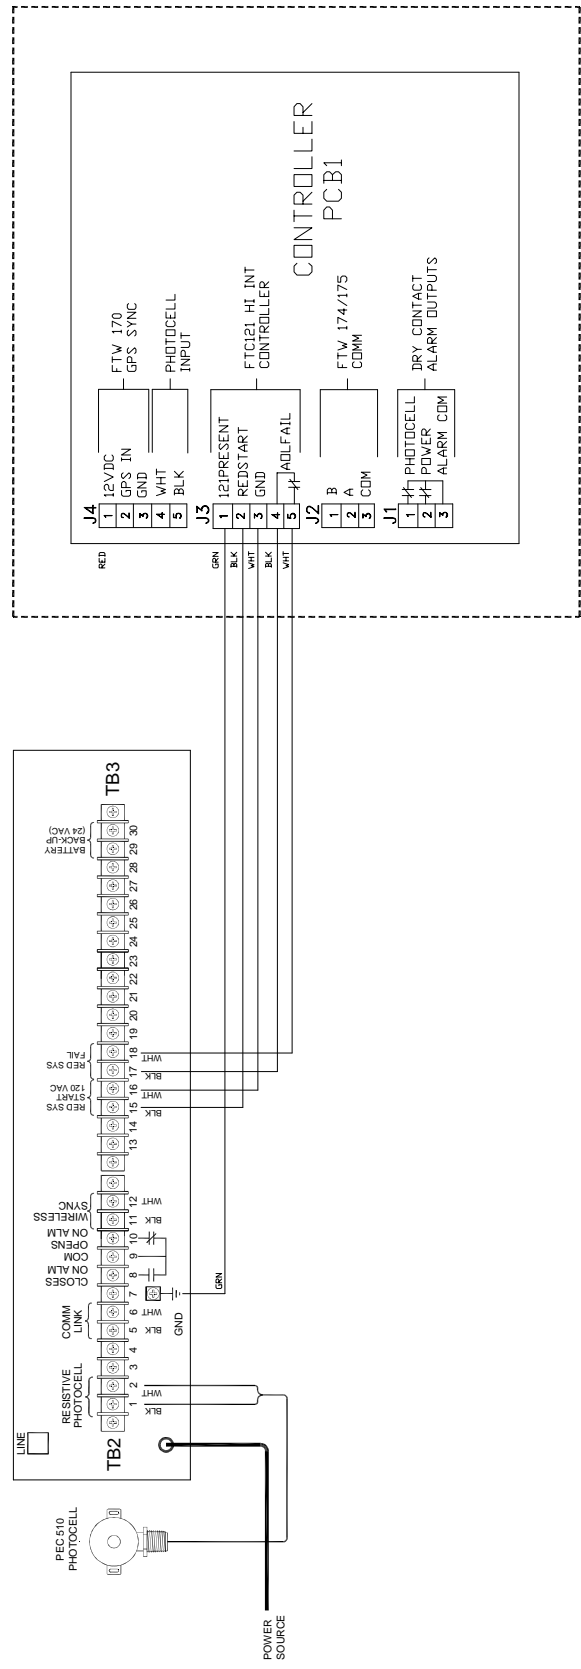

Figure 2-19 – FTC 121 System Interface
The connections for interfacing the FTS 361X-4 system with an FTC 121 System Controller are on J3. This interface will allow the FTC 121 to start or stop the operation of the FLC 361X-4 controller based on the ambient light level. It will also monitor operation of the uppermost red beacon(s) and set the system to white night mode in the event of a failure. Refer to Figure 2-19 and the FTC 121 System Controller manual for additional information.
8. “AOLFAIL” dry contact (PCB1 J3 terminals 4 & 5) is user configured in the “CONFIG” menu. “FTC121” should only be selected if the FTS 361X-4 is interfaced with an external FTC 121 controller (Figure 2-19). Otherwise, select “MODE RLY” (Mode Relay) to allow the “AOLFAIL” dry contact to indicate the current mode of the system. When “MODE RLY” operation is selected, a closed contact indicates day mode operation and an open contact indicates night mode operation. Refer to Section 3 *Configuring the System* for additional information.